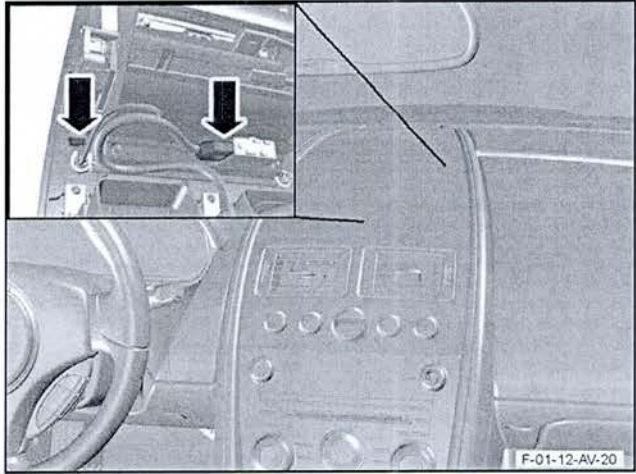

Figure 4
5. On 12MY or later vehicles, disconnect the two electrical connectors from the navigation display screen (refer to Figure 4).